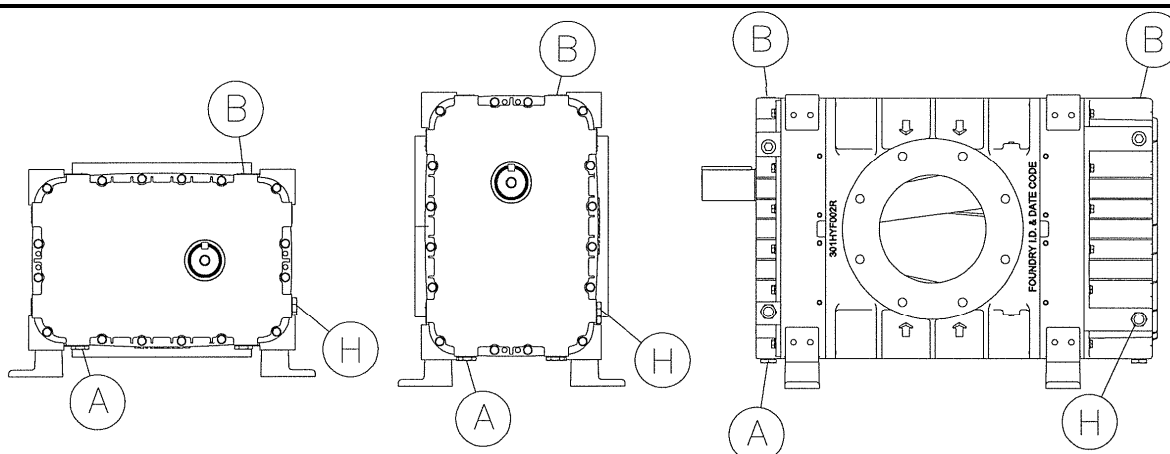

FIGURE 3-1 - LUBRICATION
When changing mounting configuration, it will be necessary to reposition oil level gauge (H), and drain plug (A). Refer to FIGURE 3-1, page 17, for correct location.
Refer to FIGURE 3-1. **While the blower is not running** remove the plug (B) from each sump. Add oil to each sump until it reaches the **middle** of each oil level sight gauge (H). After adding oil wait for oil level to stabilize. Add or remove oil to maintain oil level at middle of oil level sight gauge. Secure the plug (B) in each end.